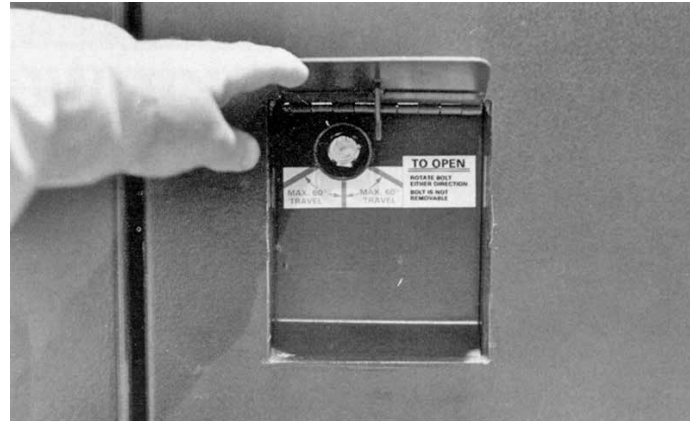

Figure 24.
1. Remove padlock and raise protective cover exposing security bolt. (Figure 24)